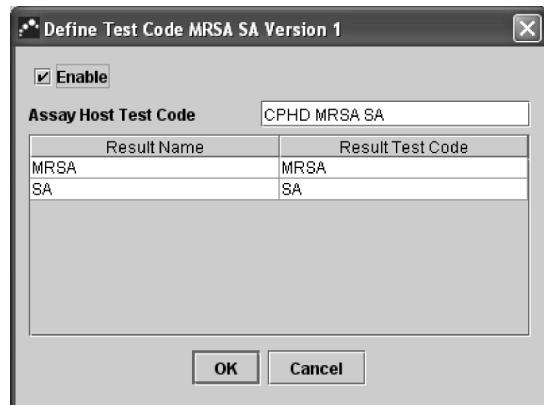

Figure 6-4. Define Test Code dialog box for a multi-result assay
- The result names reported by the assay are listed in the **Result Name** field (Figure 6-4).
4. Type in the result test code in the **Result Test Code** field (Figure 6-4) corresponding to each result name that can be reported by this assay.